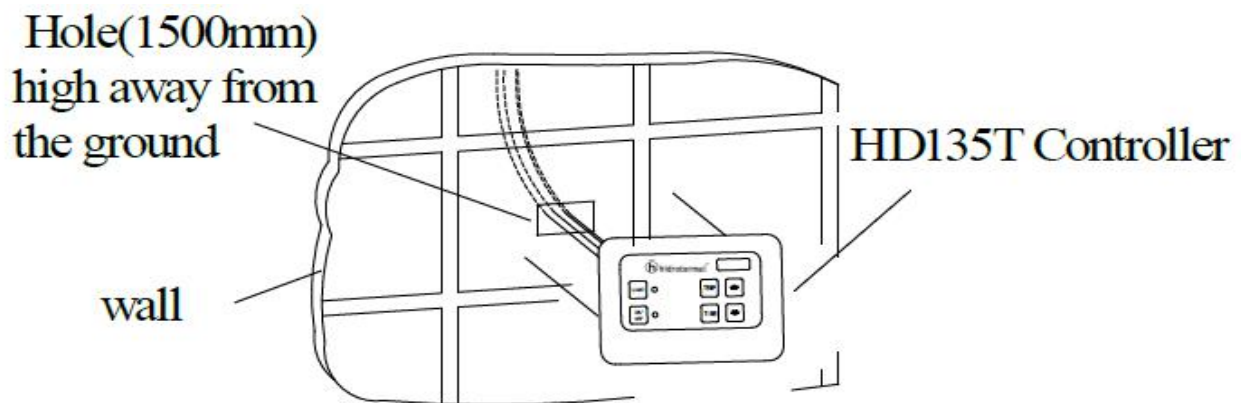

Figure 3
A) The controller should be installed outside of the steam room with convenience access for operations. Please install it as near as possible to the room's door. The recommended height is 1.5meter above from the ground. See Figure 3